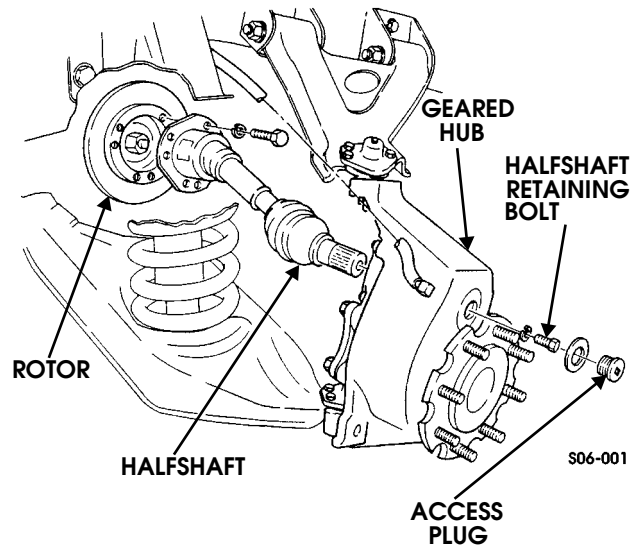

Figure 9-43: Halfshaft Retaining Bolt
2. Remove access plug and washer from geared hub (Figure 9-43).
17. Apply thread-locking compound to halfshaft retaining bolt and secure halfshaft to geared hub with lockwasher and halfshaft retaining bolt. Tighten halfshaft retaining bolt to 37 lb-ft (50 N•m) (Figure 9-43).